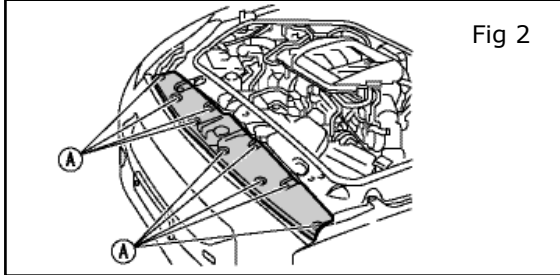

Fig 2
Disengage the clips (A), and then remove the radiator cover. Shown in Fig 2.